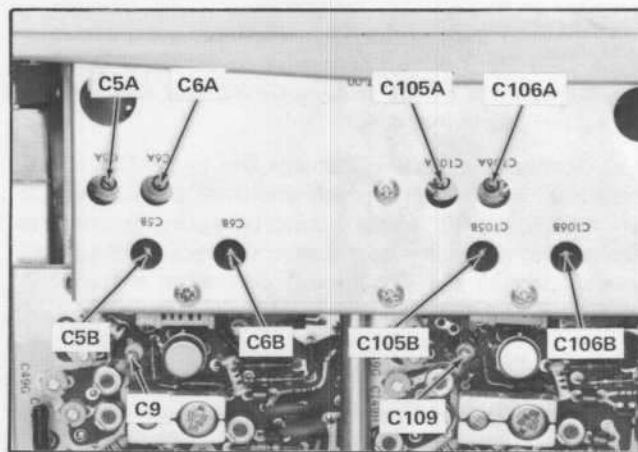

Fig. 5-9. Location of compensation adjustments.
e. ADJUST—CH 1 VOLTS/DIV switch compensation as given in Table 5-5. First adjust for optimum square corner on the display and then for optimum flat top. Remove the 15 pF input RC normalizer when adjusting for optimum square corner and replace it when adjusting for optimum flat top. Readjust the generator output with each setting of the CH 1 VOLTS/DIV switch to provide six divisions of deflection. Fig. 5-9 shows the location of the variable capacitors.
e. ADJUST—CH 2 VOLTS/DIV switch compensation as given in Table 5-6. First adjust for optimum square corner on the display and then for optimum flat top. Remove the 15 pF input RC normalizer when adjusting for optimum square corner, and replace it when adjusting for optimum flat top. Readjust the generator output with each setting of the CH 2 VOLTS/DIV switch to provide six divisions of deflection. Fig. 5-9 shows the location of the variable capacitors.